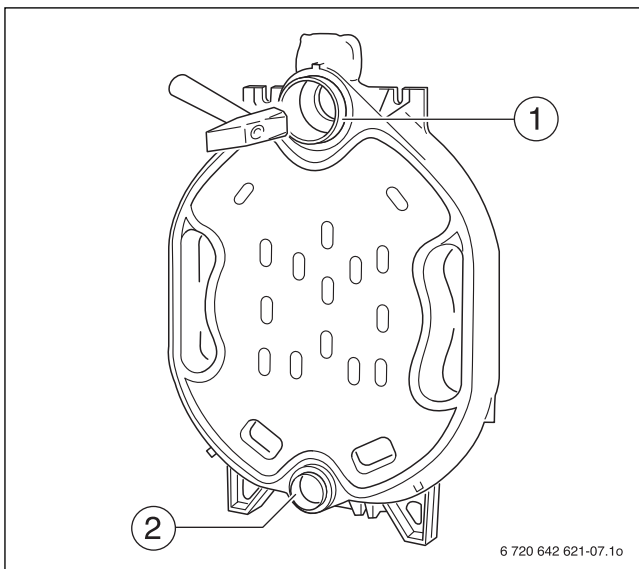

Fig. 14 Driving nipples home
- ▶ Insert the nipple straight into the upper (Sz. 4.181.70) and lower (Sz. 1, 82/50) hub of the rear section and pound home securely with alternate heavy blows. Once pounded in, the upper nipple (→ Fig. 14, [1]) must protrude approx. 1 – 49/64 inches (45 mm) and the lower nipple approx. 1 – 3/8 inches (35 mm) out of the corresponding hubs.